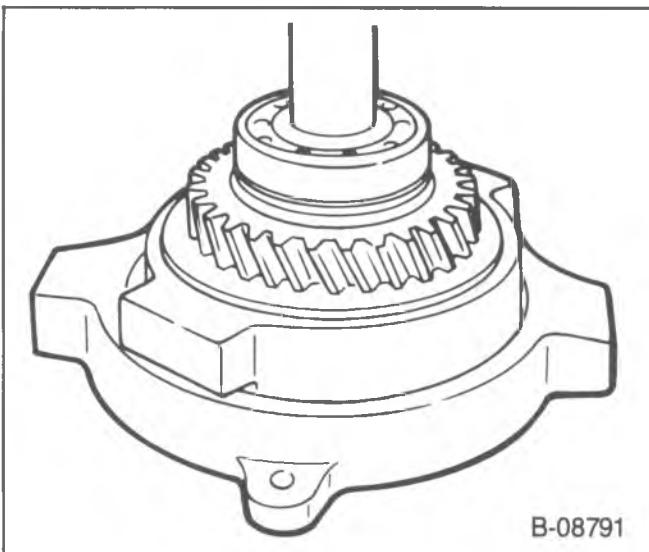
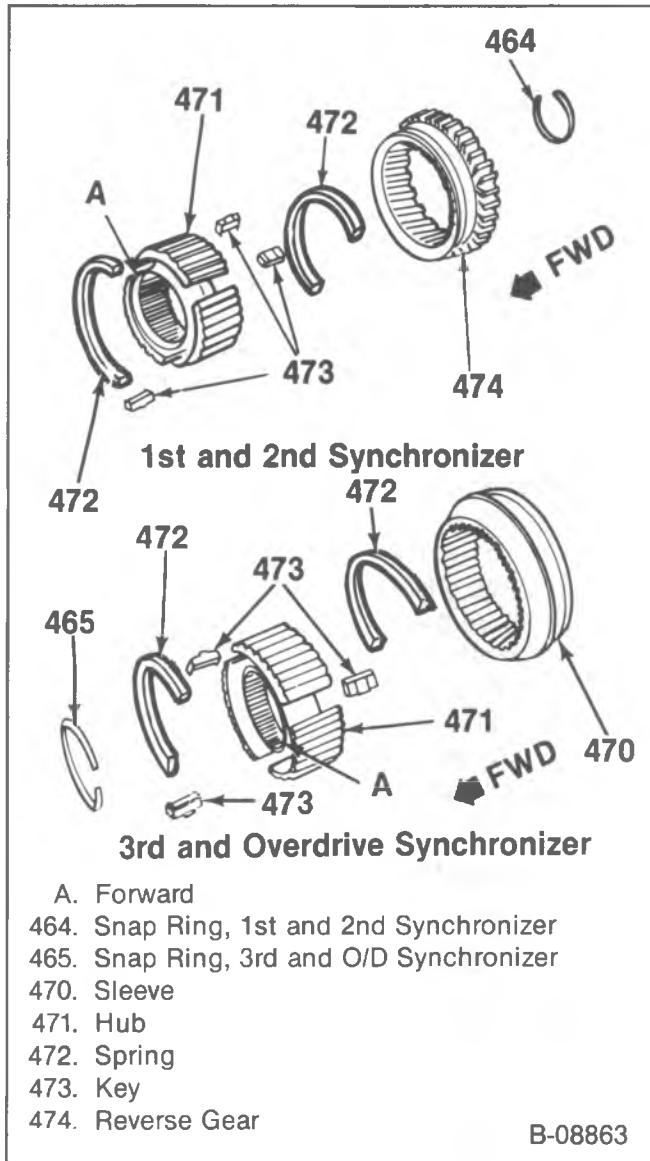

Figure 73—Pressing the Mainshaft through the Bearing
Figure 74—Synchronizer Components
- 5. Rear bearing (415) and the 1st speed gear (414).
- Press the mainshaft through the bearing and the gear (figure 73).
- 7. Remove the snap ring and the 1st and 2nd synchronizer (412).
- 8. Remove the 2nd speed blocker ring and the 2nd speed gear (410).
- 9. Synchronizers (407 and 412), (figure 74).
1. Synchronizers (407 and 412), (figure 74).